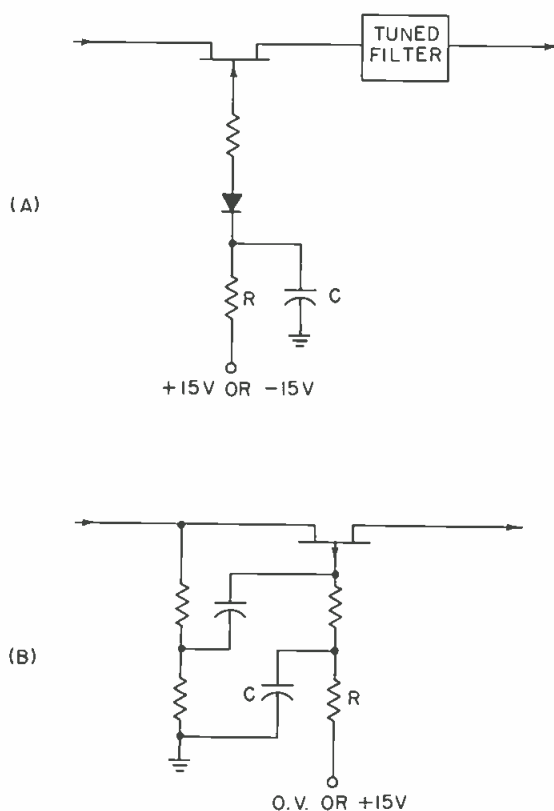

Figure 5. Bias switching circuits. At (A) the filter restores the waveform. At (B) approximately 50 per cent of the input signal is fed to the gate circuit.
The diagrams of FIGURE 5(A) and (B) show how the unsymmetrical waveform during the *partially on* period can be eliminated or reduced. In FIGURE 5(A), the filter restores the waveform. In FIGURE 5(B), approximately 50 per cent of the input signal is fed to the gate circuit to reduce non-symmetry during the *partially on* period. In both cases the switches have controlled turn on/off characteristics utilizing the CR time constant in the gate circuit.